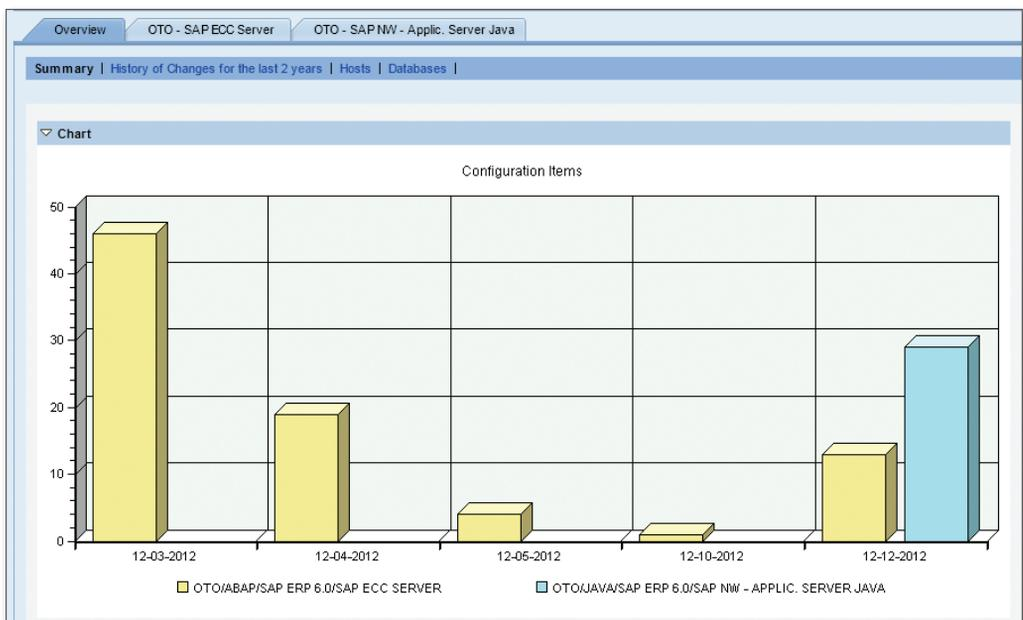

Figure 4.12 End-to-End Change Analysis—Overview
3. The changes made in each technical system are then displayed on the OVERVIEW tab page for end-to-end change analysis (see Figure 4.12).
In our example involving Toys Inc., the chosen scenario comprises an AS ABAP (OTO—SAP ECC SERVER in Figure 4.12) and an AS Java (OTO—SAP NW—APPLIC. SERVER JAVA in the figure). All recorded changes are displayed on a daily basis. The lower section of the chart contains a legend that lists the technical systems represented by the various bars in the bar chart. This enables you to immediately see the period and technical system in which the changes occurred. In Figure 4.12, it is clear that a particularly large number of changes were made to the SAP ECC server on December 03, 2012.